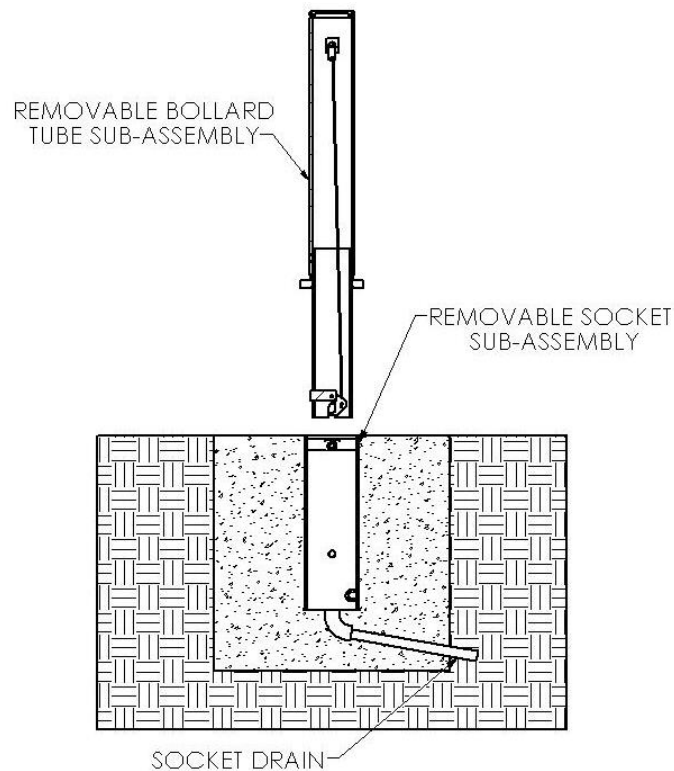

Figure 1 – Removable Bollard Socket Installation and Components
Bollards include the following components (see Figure 1):
1. Excavate for socket footing and install drain (see Figure 1). Depth of socket is 1'-6". Footing depth is the responsibility of the installer and should comply with local and national building codes. Frost depth should be taken into consideration. Landscape Forms recommends 24" minimum depth to fully retain the socket. *Failure to allow for proper drainage may void the standard Landscape Forms warranty.*